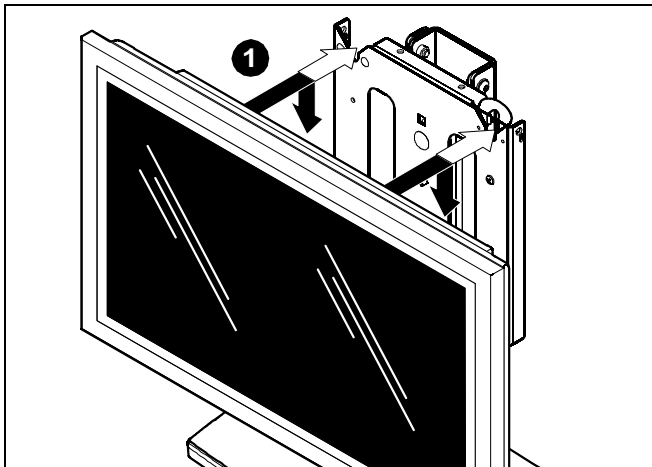

Figure 5
2. Remove face plate from slide plate assembly by removing two 3/8"-16 x 1" round head carriage bolts, two 1" OD x .563 ID spacers, two 3/8" flat washers, and two 3/8-16 lock nuts. (See Figure 5)
3. Reinstall face plate into upper mounting holes of slide plate using two 3/8"-16 x 1" round head carriage bolts, two 1" OD x .563 ID spacers, two 3/8" flat washers, and two 3/8-16 lock nuts removed in Step 2. (See Figure 5)
1. While supporting both sides of display, align four mounting buttons on display or interface bracket with four mounting holes in faceplate. (See Figures 5 and 6)
2. Lower display into place listening for audible "click" to ensure recessed area of mounting buttons are properly seated in lower area of mounting holes. (See Figures 5 & 6)